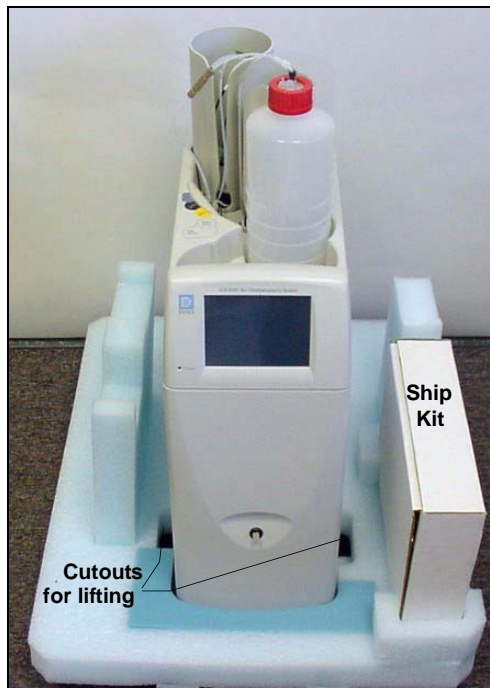

Figure B-3. ICS-2000 with Ship Kit
4. Remove the next layer of foam and remove the Ship Kit box (see Figure B-3).
5. The bottom foam layer has two cutouts on either side of the ICS-2000 module; use these as handholds when lifting the module (see Figure B-3).